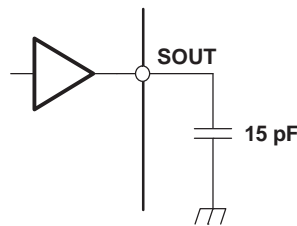
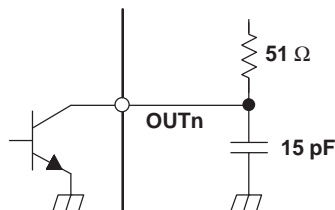
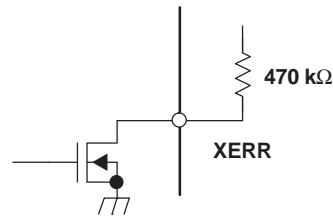

Figure 4. Test Circuit for t_{r0} , t_{f0} , t_{pd0} , t_{pd1}
Figure 5. Test Circuit for t_{r1} , t_{f1} , t_{pd2} , t_{pd3} , t_{pd5} , t_d
Figure 6. Test Circuit for t_{pd4}
- (1) See Figure 4. Defined as from 10% to 90%
- (2) See Figure 5. Defined as from 10% to 90%
- (3) See Figure 4, Figure 14
- (4) "↑" and "↓" indicates a rising edge, and a falling edge respectively.
- (5) See Figure 5 and Figure 14
- (6) See Figure 5, Figure 6, and Figure 14
- (7) See Figure 5